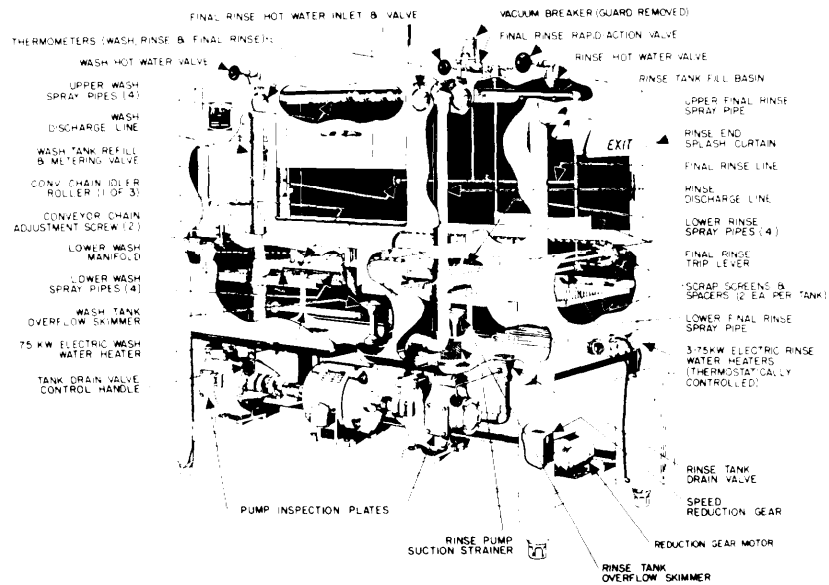

Figure 2 - 250-Rack Per Hour Capacity, Left-To-Right Feed
a. Description: The single-tank stationary rack, door-type dishwashing machine (Figure - 1), and the multiple-tank (conveyor-type) dishwashing machine (Figures 2, 3, & 4) should conform to the requirements specified in the National Sanitation Foundation Standard No. 3, "Commercial Spray-Type Dishwashing Machines". The single-tank dishwashing machine is capable of handling 50 racks of tableware (1000 dishes) and other serving utensils per hour and may be either manually or automatically operated. The multiple-tank dishwashing machine is capable of handling 250 racks of tableware (6,250 dishes) and other serving utensils per hour, depending upon conveyor speed and personnel. The capacity of the multiple-tank rackless conveyor type dishwashing machine is based on the number of pieces of tableware washed and rinsed per hour.